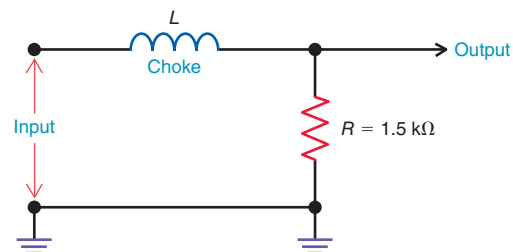

Figure 20-21
20.20 In Fig. 20.21, calculate the required value of the choke inductance, L , at the following frequencies:
20.21 If $L = 50$ mH in Fig. 20-21, then what is the lowest frequency at which L will serve as a choke?